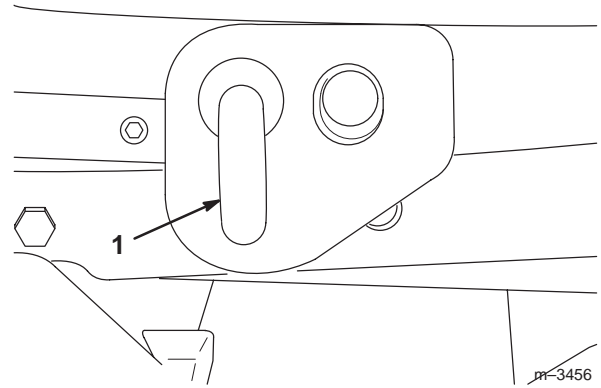

Figure 26
13. Pull the two spring loaded J-pins from the deck lift arms and twist them slightly so that they stay disengaged (Fig. 26).